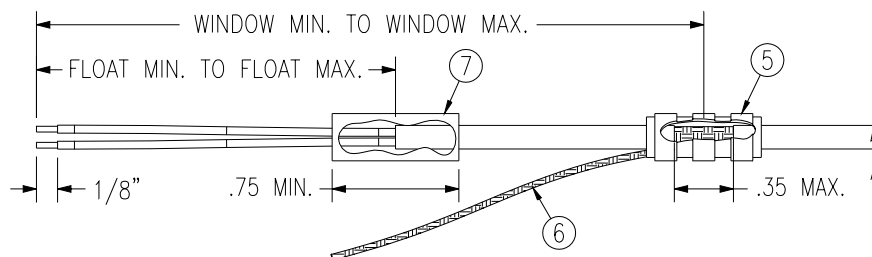

Figure 3-2. Shielded Cable Preparation
2. At one end of a shielded cable (4) measure back a distance between “Window Min” to “Window Max” (Table 3-5) and cut a window (max size 0.35”) in the jacket to expose the shield. (See Figure 3-2). Use caution when cutting the jacket to avoid damaging the individual braids of the shield. When dealing with a densely populated connector with many cables it may prove beneficial to stagger the windows throughout the “Window Min” to “Window Max” range. If staggering is not needed the “Ideal Window” length is recommended.
3. Connect a Flat Braid (6) to the shield exposed through the window of the prepared cable assembly (4). The Flat Braid goes out the front of the termination towards the connector. Do not allow wires to exit the rear of the termination and loop back towards the connector. (See Figure 3-2). Make this connection using an approved shield termination technique. Refer to FAA Advisory Circular AC 43.13 as a reference for termination techniques.
4. At the same end of the shielded cable (4) and ahead of the previous shield termination, strip back “Float Min” to “Float Max” (Table 3-5) length of jacket and shield to expose the insulated center conductors. (See Figure 3-2). It may be best to build the “Ideal Float” length optimally.